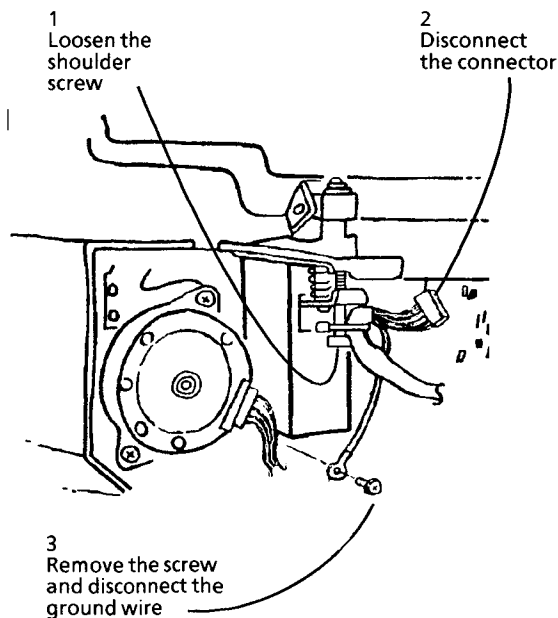

Figure 1. Preparing to Remove the SDF Assembly
3. Prepare to remove the SDF Assembly (Figure 1).